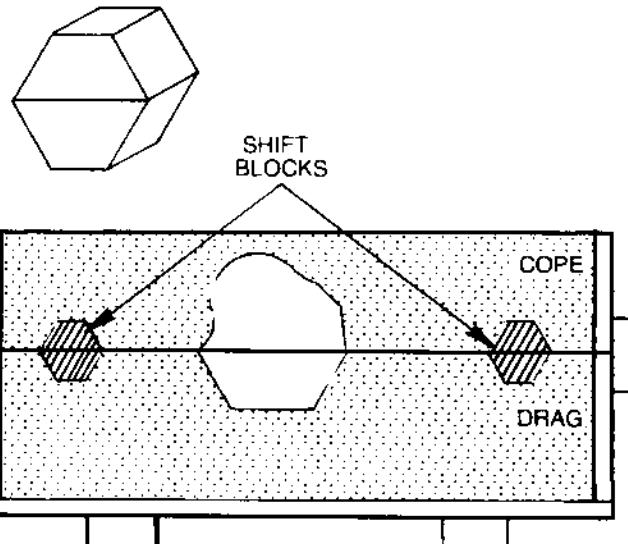

FIGURE S.9
**shift block** Dry sand, wood, or cast iron blocks that fit prints on cope and drag pattern boards (Fig. S-9). The blocks are placed in the drag prints and the mold coped. The corresponding prints in the cope mold lower over the shift blocks to prevent a shift in the mold. The use of shift blocks is resorted to only if the only flask available for the job is in no shape to trust. Shift blocks are also used to register cope and drag core molds which are not made in a flask. They are double-faced truncated pyramids or cones.